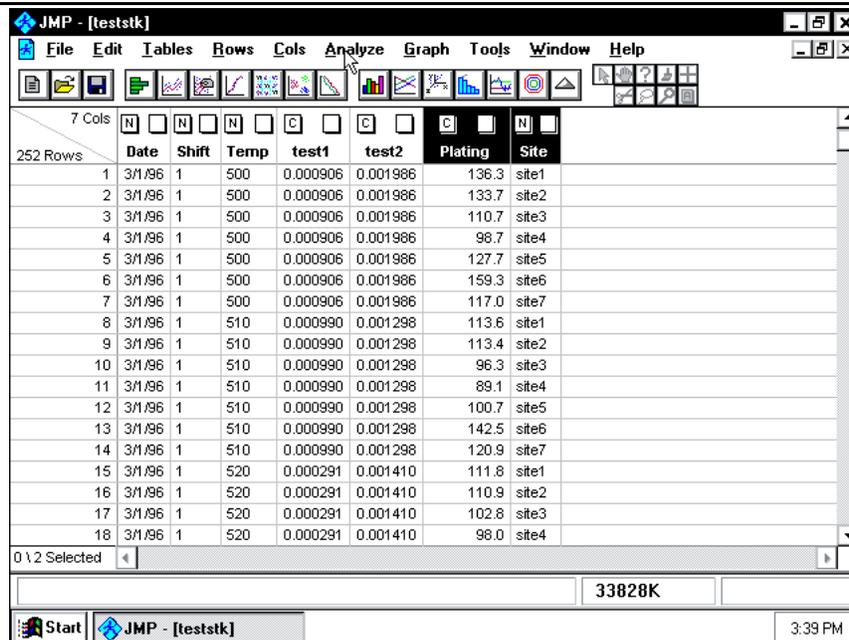

Figure 3. After using the **Stack Columns** Command.
**Columns** option in the **Tables** menu. We'll call this new JMP data table **teststk.jmp**. Now we use the same data, rearranged (Figure 3). We can use either table, depending on the analysis we want to do although in this workshop all remaining analyses use this data table.